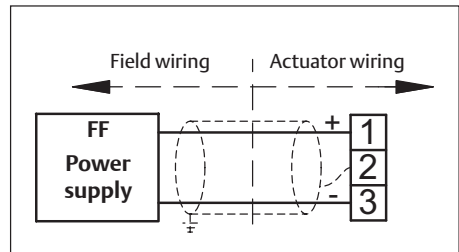

Fig. 4.3 Terminal connections
3. Connect the FOUNDATION Fieldbus™ signal to the applicable terminals (see figure 4.3).
- For 7/8" or M12 quick connector pinout, see figure 4.3 and 4.4.